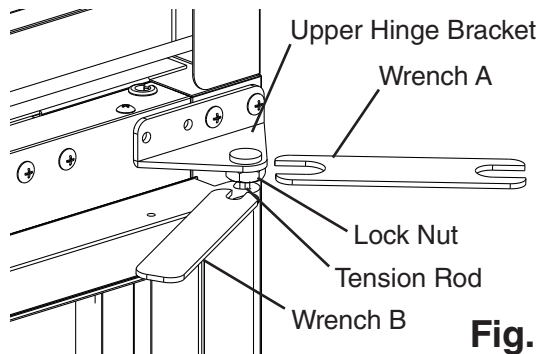

**Fig. 38**
- 3) At the upper hinge bracket, place wrench B on the tension rod and hold (prepare for tension pressure), then using wrench A, loosen the lock nut. See Fig. 38.